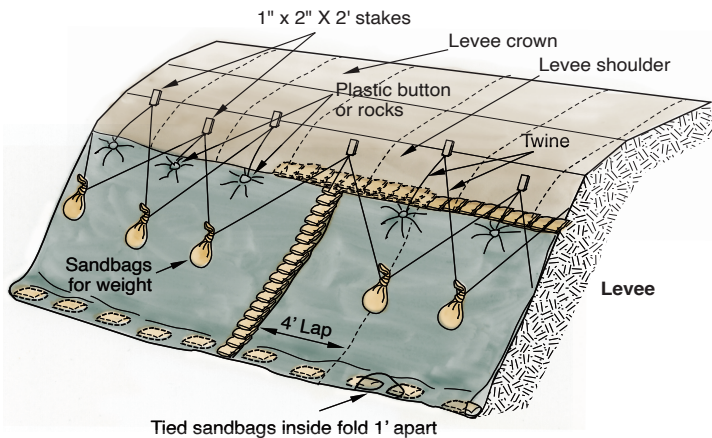

Figure 9: Wavewash Protection
- Place the stakes 4' apart and stagger vertically by 1' as shown in Figure 9.
Team 4: Using a continuous piece of twine, hang tied bags from stakes in a criss-crossed fashion or "V" fashion as shown in Figure 9.
- Place the sandbags half on the plastic and half on the levee as shown in Figure 9.